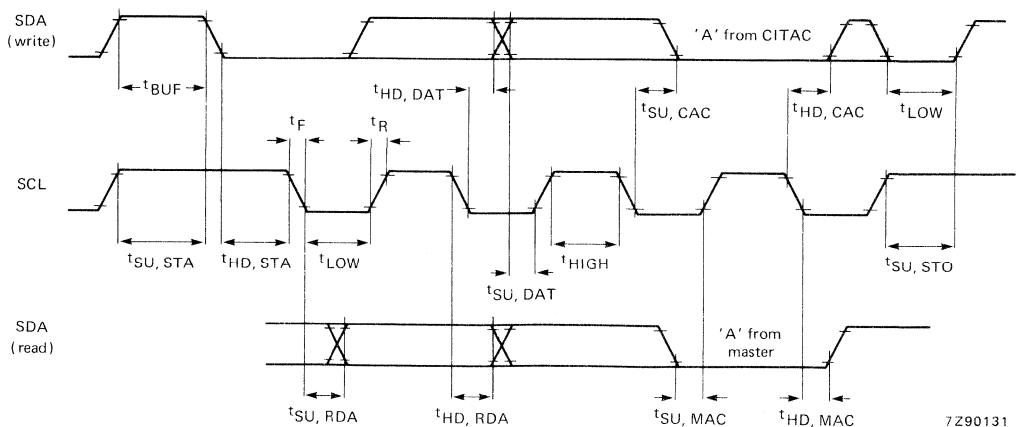

Fig. 8 I2C bus timing SAB3037.
- For each band-select output which is programmed at logic 1, sourcing a current  $I_{OHP1X}$ , the additional supply currents (A) shown must be added to  $I_{P2}$  and  $I_{P3}$  respectively.
**I2C BUS TIMING (Fig. 8)**